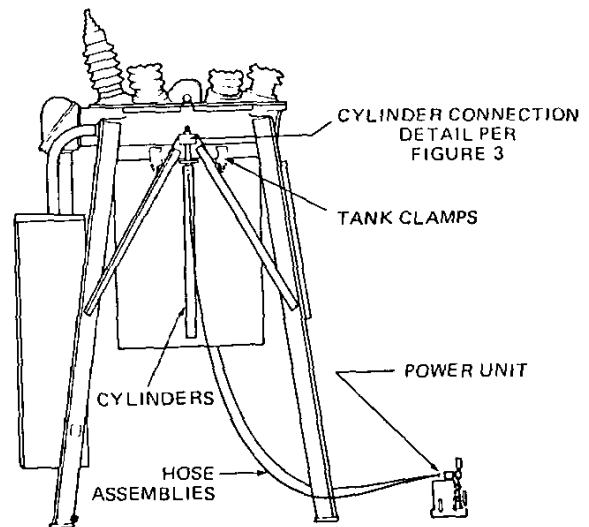

Figure 2
6. CG-38 and CG-48 Breakers (Figures 2 and 3):